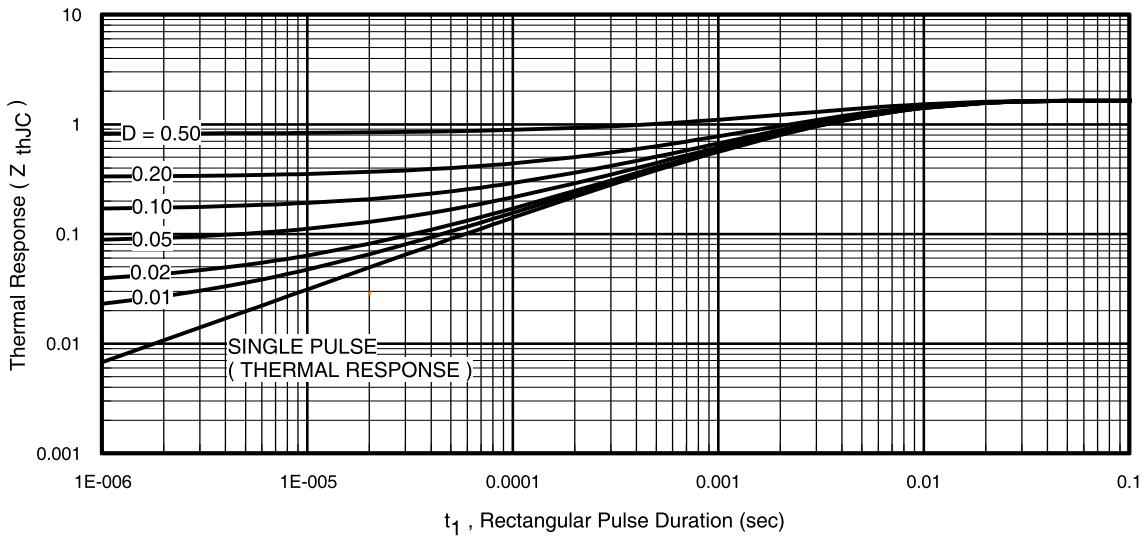
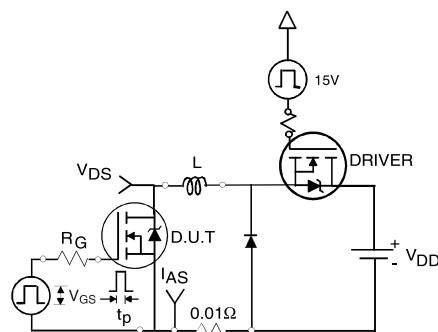

Fig 11. Maximum Effective Transient Thermal Impedance, Junction-to-Case
Fig 12a. Unclamped Inductive Test Circuit
3. Equation below based on circuit and waveforms shown in Figures 12a, 12b.
- $Z_{thJC}(D, t_{av})$ = Transient thermal resistance, see figure 11)
- ① Repetitive rating; pulse width limited by max. junction temperature. (See fig. 11).
- ② Limited by T_{Jmax} , starting $T_J = 25^\circ\text{C}$, $L = 0.46\text{mH}$ $R_G = 25\Omega$, $I_{AS} = 20\text{A}$, $V_{GS} = 10\text{V}$. Part not recommended for use above this value.
- ③ Pulse width $\leq 1.0\text{ms}$; duty cycle $\leq 2\%$.
- ④ C_{oss} eff. is a fixed capacitance that gives the same charging time as C_{oss} while V_{DS} is rising from 0 to 80% V_{DSS} .
- ⑤ Limited by T_{Jmax} , see Fig.12a, 12b, 15, 16 for typical repetitive avalanche performance.
- ⑥ This value determined from sample failure population. 100% tested to this value in production.
- ⑦ This is only applied to TO-220AB package.
- ⑧ This is applied to D²Pak, when mounted on 1" square PCB (FR-4 or G-10 Material). For recommended footprint and soldering techniques refer to application note #AN-994.